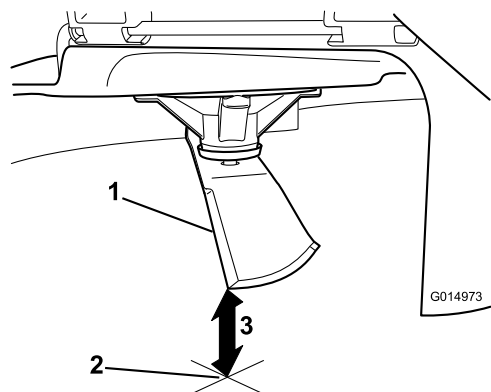

**Figure 75**
3. Measured distance between blade and the surface (A)
4. Rotate the same blade 180 degrees so that the opposing cutting edge is now in the same position (Figure 75).